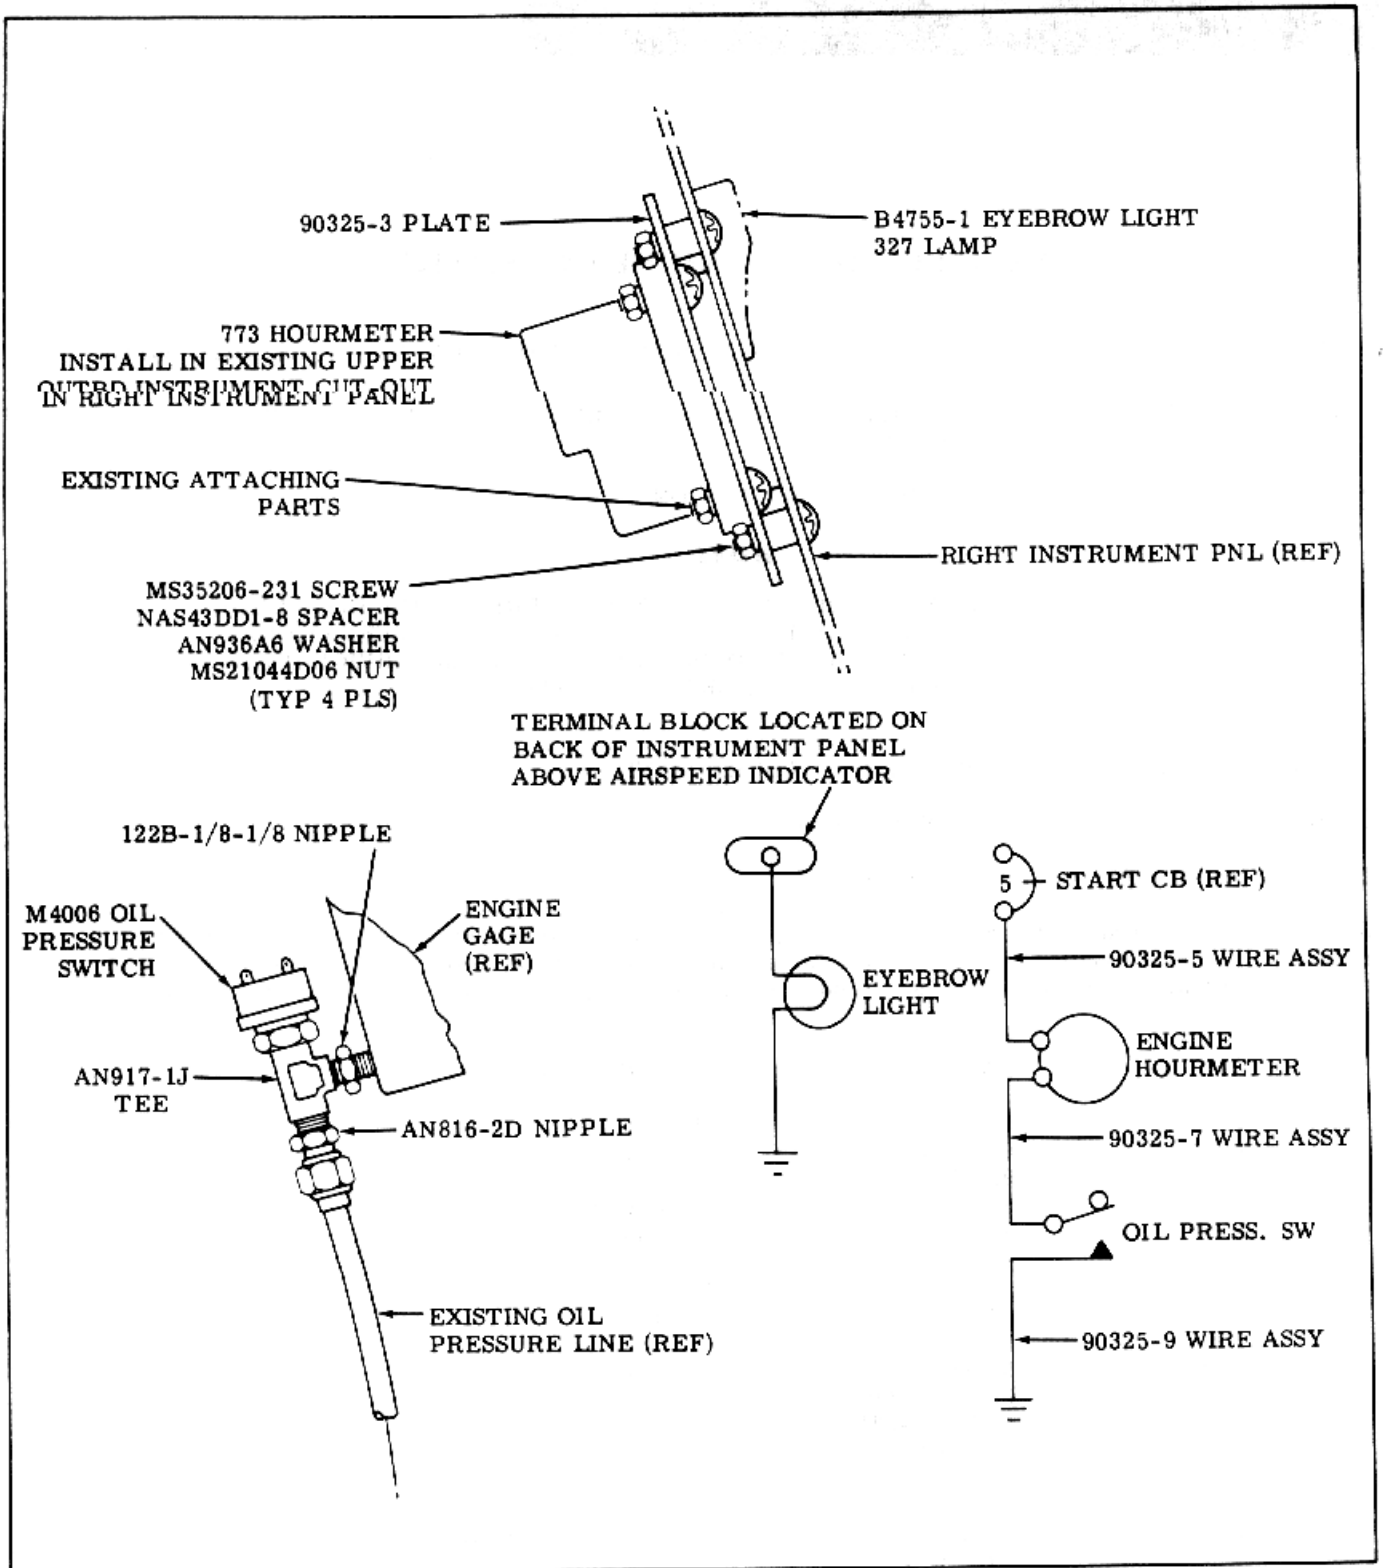

Figure 1.
3. Install 90325-3 plate on 773 hourmeter (see Figure 1).
5. Install 90325-3 plate, 773 hourmeter, B4755-1 eyebrow light on right instrument panel using MS35206-231 screw. NAS43DD1-8 spacer, AN936A6 washer and MS21044D06 nut (4 places) (see Figure 1).
9. Install 122B-1/8-1/8 nipple, AN917-1J nipple, M4006 oil pressure switch, and AN816-2D nipple on engine gage and connect existing oil pressure line to oil pressure switch(see Figure 1).
10. Install 90325-5 wire assembly, 90325-7 wire assembly and 90325-9 wire assembly and connect to airplane electrical system (see Figure 1).
11. Connect B4755-1 eyebrow light to airplane electrical system (see Figure 1).